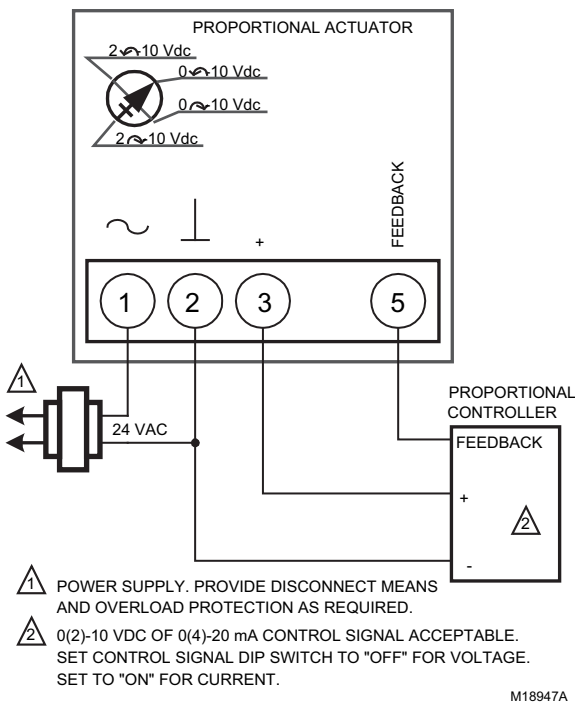

**Fig. 28. Wiring for On/Off Control**
2. Wire actuator using Figures 28 through 37 for the application required.